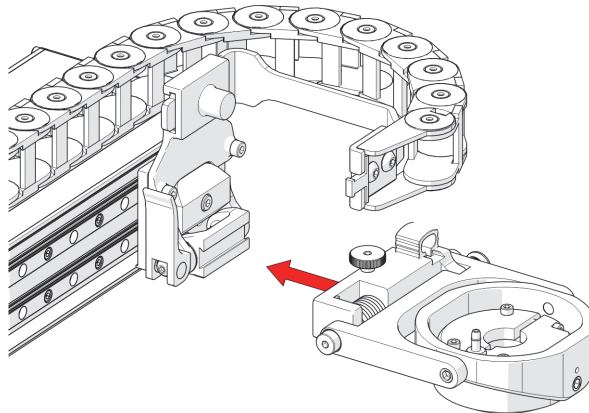

Figure 2-92 Insert the dovetail jaw in raster arm pivot nose
4. Insert the dovetail jaw of the dual conventional UT probe holder (see Figure 2-92 on page 116) in the pivot nose mount of the raster arm.